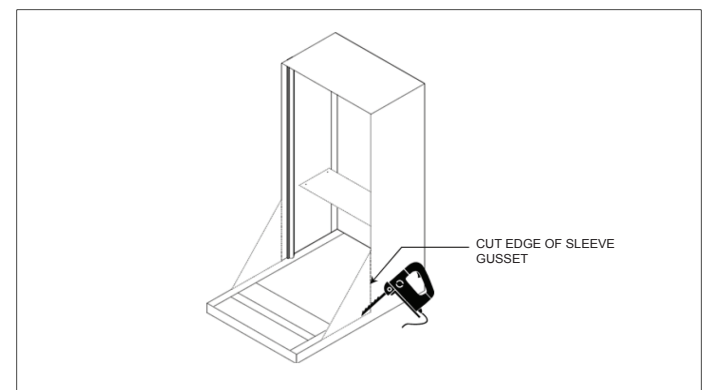

Figure 4
3. Cut edge of sleeve gusset flush or below gasket line using reciprocating saw. (Figure 4)